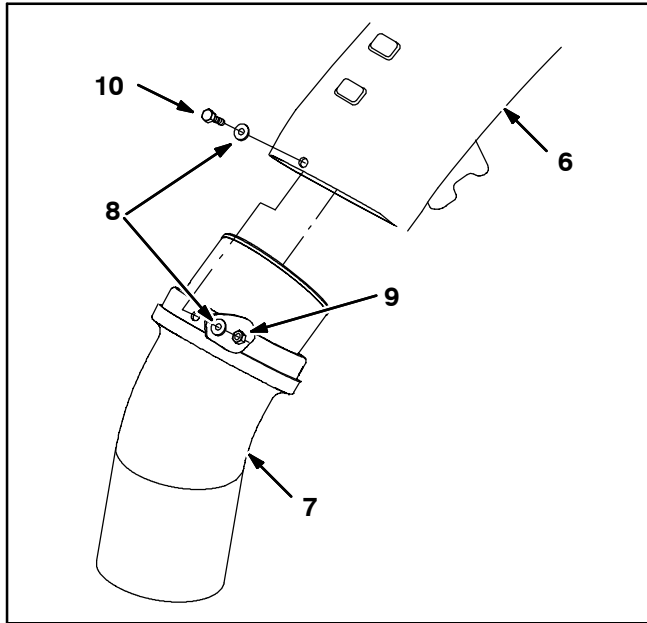

FIG. 12
16. Use three hex screws (10), six washers (8), and three hex nut (9) to install the floor tube (7) onto the wand tube (6). Refer to Fig. 12.